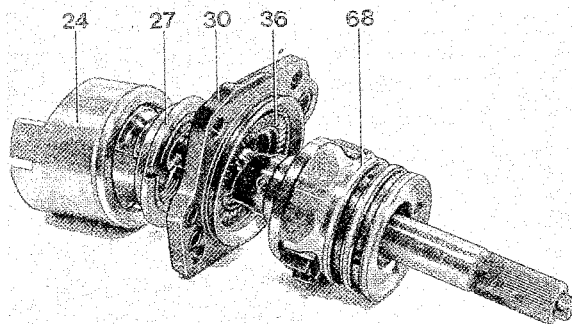

Fig. 6-86. Worm parts
8. Place the O-ring (26) and piston ring (25) in the recess on the sleeve (24). Fit the pre-assembled cover (30) with bearing washer (35), bearing (36), ring (27) and sleeve (24) on the worm, see Fig. 6-86.